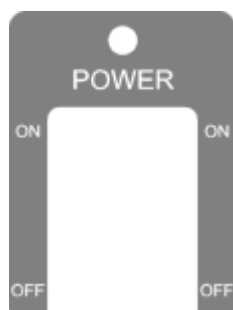

Fig. 3-6: Power label "ON" - "OFF".
- Put the toggle switch on the handle of the supply and display unit into position "OFF" (downwards on the handle, see figure 3-6). The amplifier is switched off and no power is consumed.
- Place the toggle switch into position "ON" (upper position, see figure 3-6). The amplifier is switched on.
- Place the toggle switch on the handle into position "ON" (see figure 3-6). Switchover between "Passive" and "Active" can now also be done by switching the external voltage supply on and off (remote control) since the connector for the external voltage supply interrupts the battery circuit.
- After removing the connector for the external voltage supply, place the toggle switch on the handle into position "OFF" (see figure 3-6). If this is not done, the antenna electronics and the amplifier will continually be fed by the batteries.